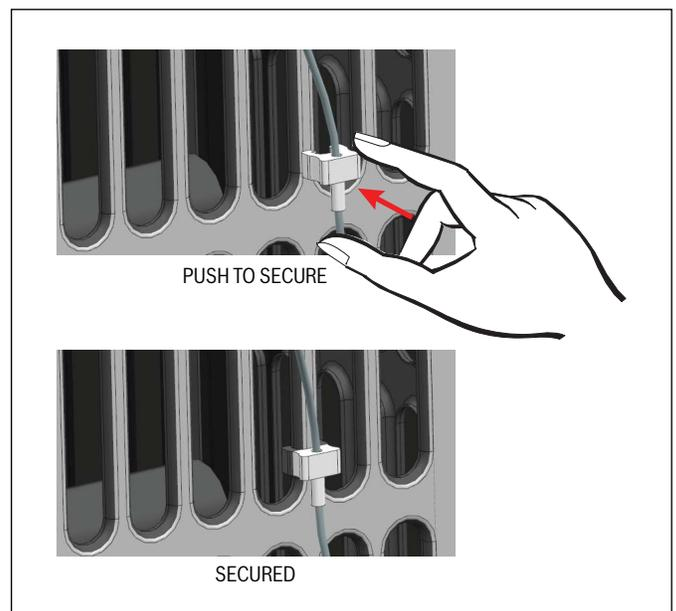

Figure 14
15. Attach the two antenna cable clips to the vertical louvers to secure the cable to the unit (Refer to Figure 14).